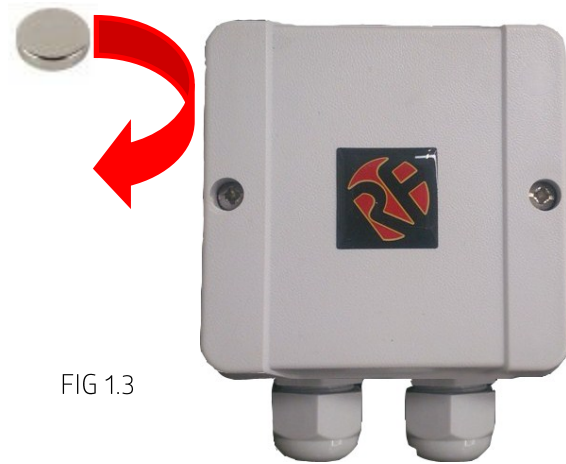

FIG 1.3
1. Briefly place a magnet on the receiver by the MAINSLINK-RX as shown in FIG1.3.